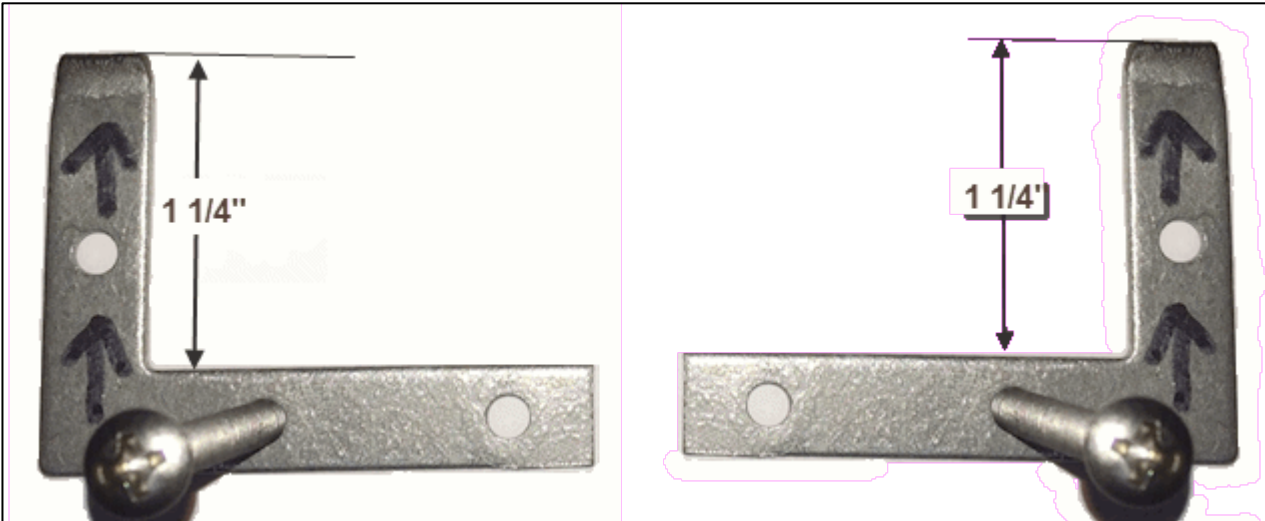
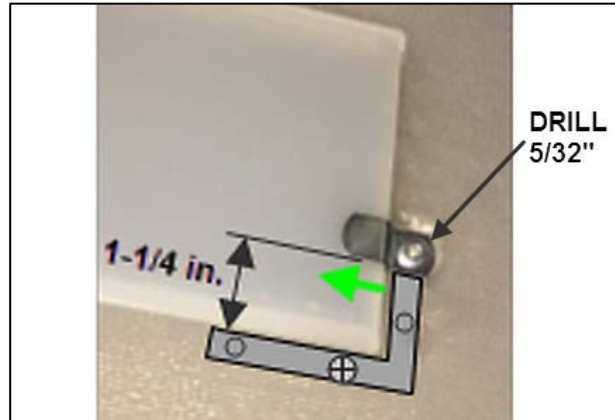

Figure 3: Simple Templates
Figure 4
2. Fabricate a set of two simple templates (Figure 3) to locate the Z-supports 1 1/4" from the edge of the lens. (Figure 4)
4. Position the template as shown in Figure 4 and place a small mark on the lens at the top of the vertical leg.
6. Drill 5/32" hole. (Figure 4)
8. Repeat steps for other side of lens. (Figure 3)